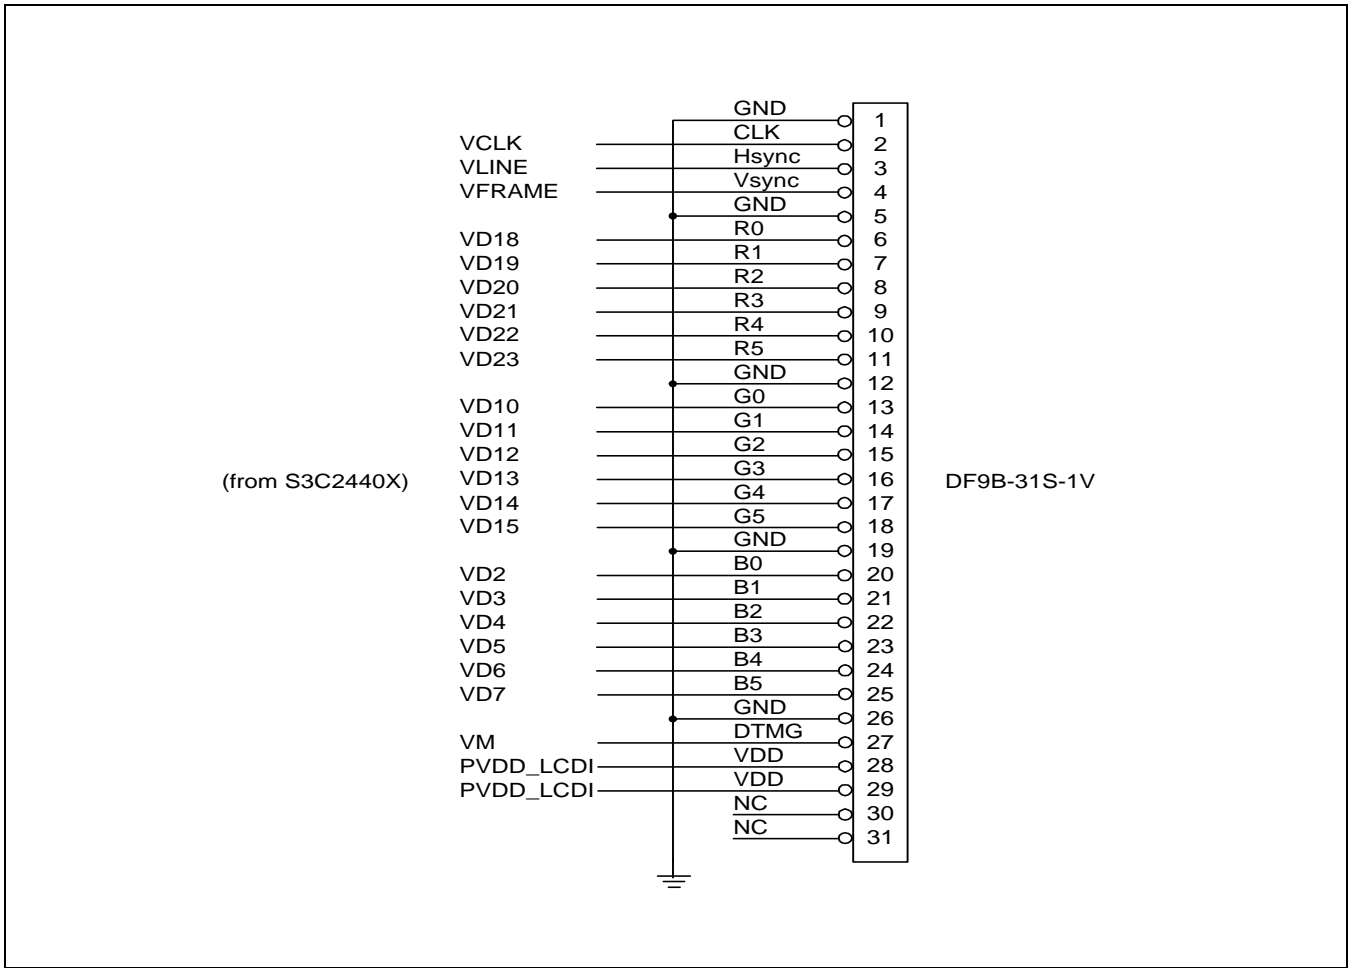

Figure 4-19. LP104V2-W Connection with S3C2440A (LG Philips 10.4" TFT LCD)
- V16C6448AB (640x480 TFT LCD) from PRIMEVIEW (refer to Figure 4-19)